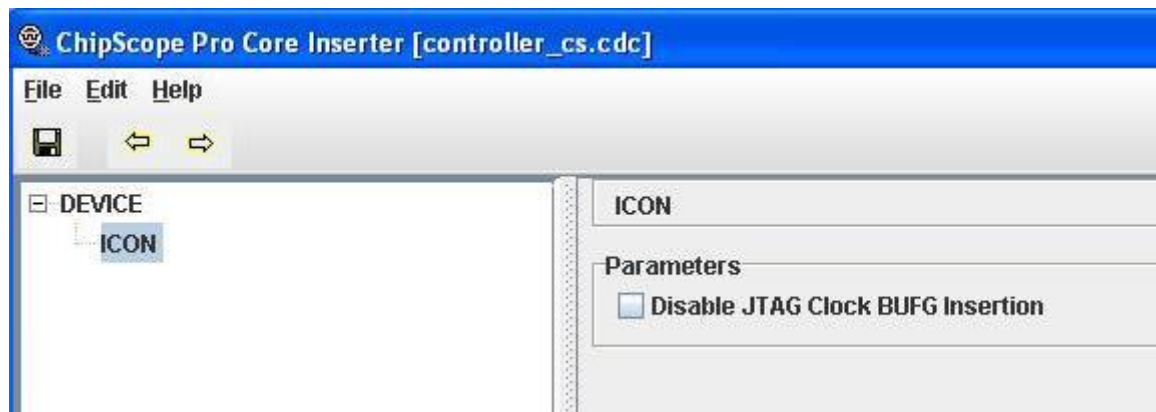

Fig 3.9: Selecting ICON Parameters
1. ICON core is the core which acts like a controller and connects all ILA cores to the JTAG boundary scan chain. Its parameters are defined by clicking of the **ICON** option as shown in Fig 3.9.